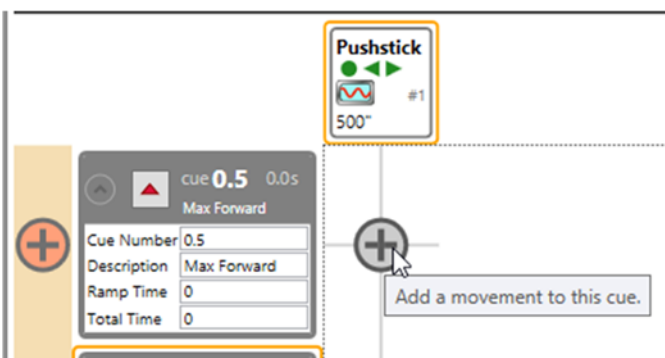

Figure 91
3. Add a movement for **Motor 1** in **Cue .5** by pressing the "+" button in the **Cue Grid** (Figure 91).